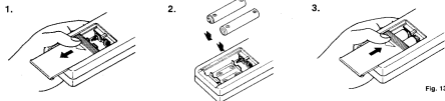

Fig. 13
• How to install the batteries (Fig. 13)